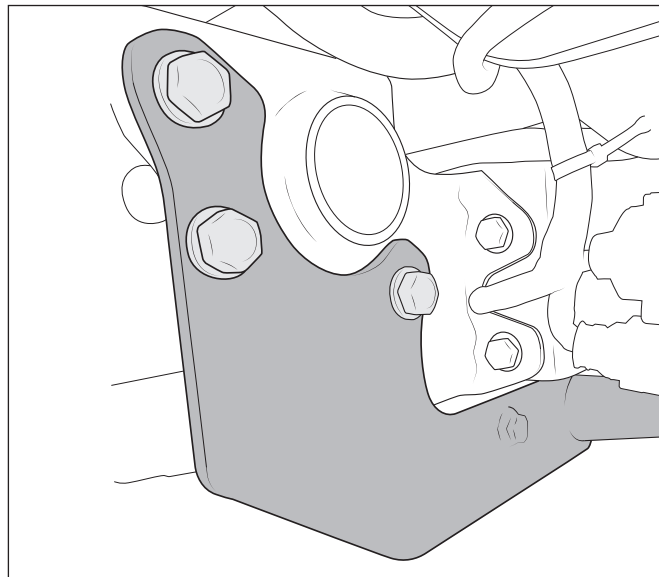

Figure 35
3. Lift AEV Corner Assembly into position and loosely reinstall the factory hitch assembly hardware through the mounting plate of the corner assembly (fig. 35).
- C. Torque M12 bolts (fig. 35) to **74 lb-ft.**